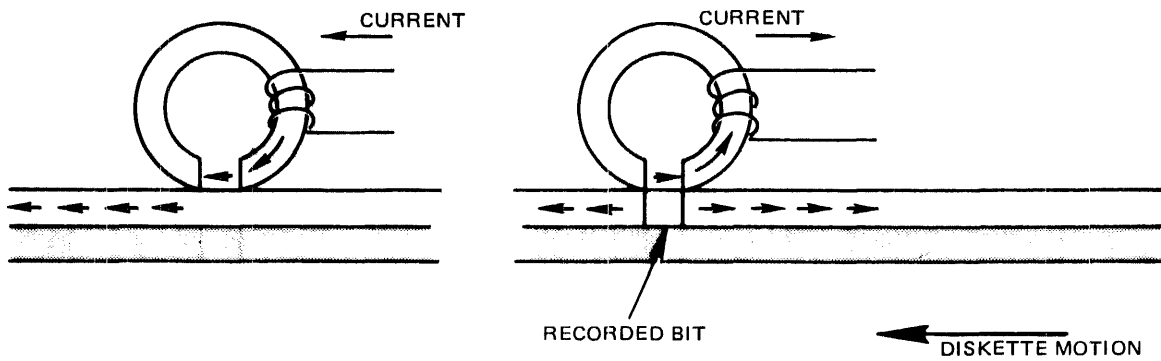

Figure 25 Recorded Bit
4.3 During a write operation, a bit is recorded when the flux direction in the ring is reversed by rapidly reversing the current in the coil. The fringe flux is reversed in the gap and hence the portion of the flux flowing through the oxide recording surface is reversed. If the flux reversal is instantaneous in comparison to the motion of the diskette, it can be seen that the portion of the diskette surface that just passed under the gap is magnetized in one direction while the portion under the gap is magnetized in the opposite direction. This flux reversal represents a bit. See Figure 25.